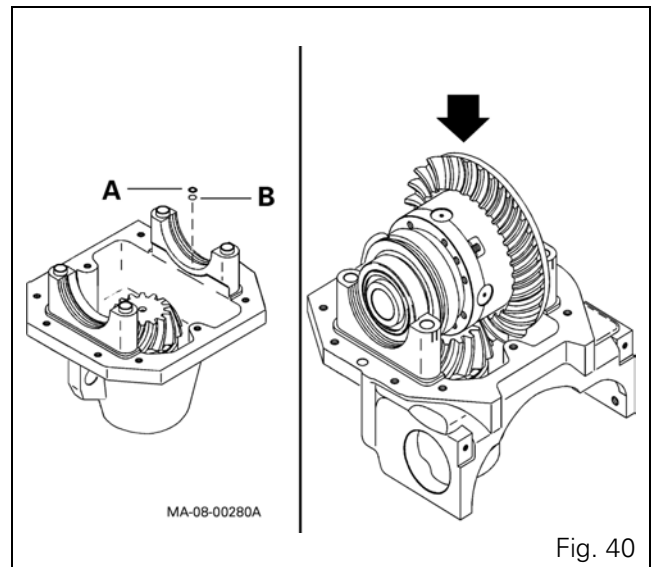

Fig. 40
53. Fit the unit assembly on the differential housing (Fig. 40).